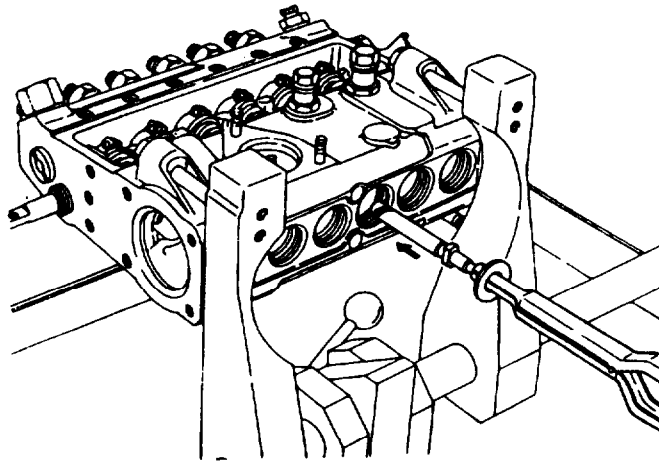

FIGURE 3-29. Inserting Plunger
- l. Install upper spring seat (28) and spring (27) on plunger barrel (37) through bottom plug holes.
- m. Dip plunger (24) in clean diesel fuel and hold it with mechanical fingers. Insert plunger with lower spring seat (25) into barrel (37) with helix facing upward and manufacturer's mark facing downward, refer to FIGURE 3-29.